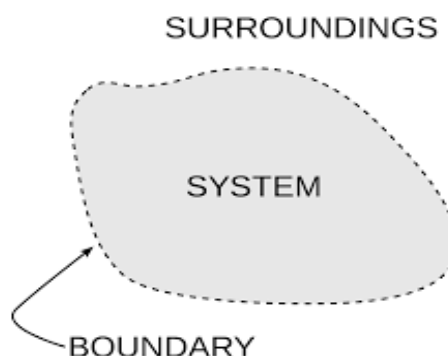

Fig. 2.1. System & surrounding
- Anything outside the system which affects the behavior of the system is known as surroundings. (Fig. 2.1)